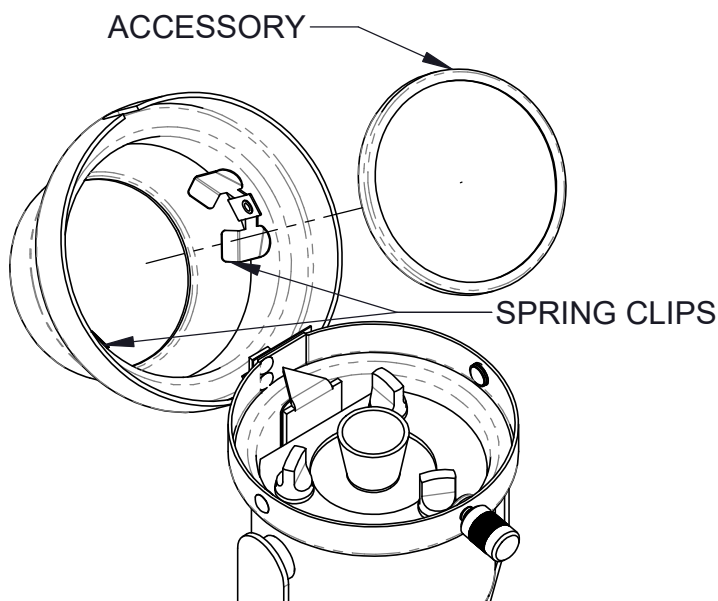

FIGURE 13. ACCESSORY BEING PLACED INTO FIXTURE FRONT
3. YOU CAN INSERT ANY "AAA" SIZE ACCESSORY INTO THE FRONT, VIA INTERNAL SPRING CLIPS (FIG. 13, 14). THE LP260 FIXTURE FRONT CAN HOLD UP TO TWO ACCESSORIES.